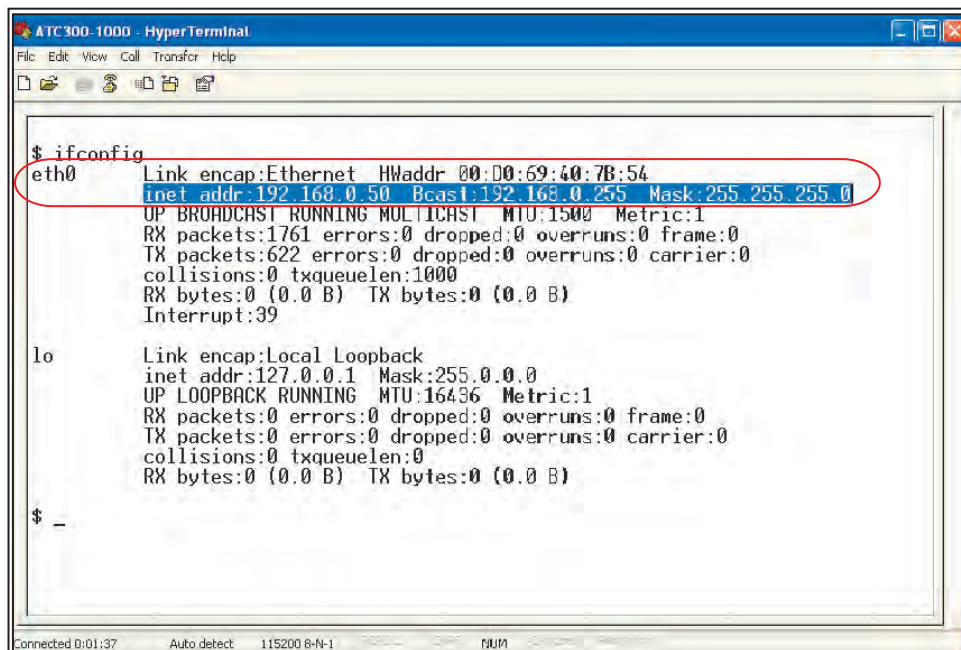

Figure 5-8. Getting The IP Address For Ethernet Connection.
12. Observe the **eth0** paragraph shown in Figure 5-8. The second line in this paragraph contains the IP address for your Ethernet connection. Example **inet addr:192.168.0.50 Mask:255.255.255.0**.